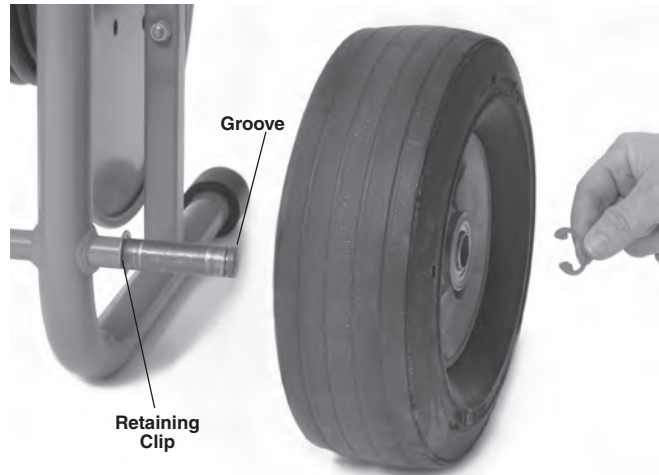

Figure 5 – Assembly of the KJ-2200
1. Install retaining clip into inner groove on each end of axle. (See *Figure 5*.)